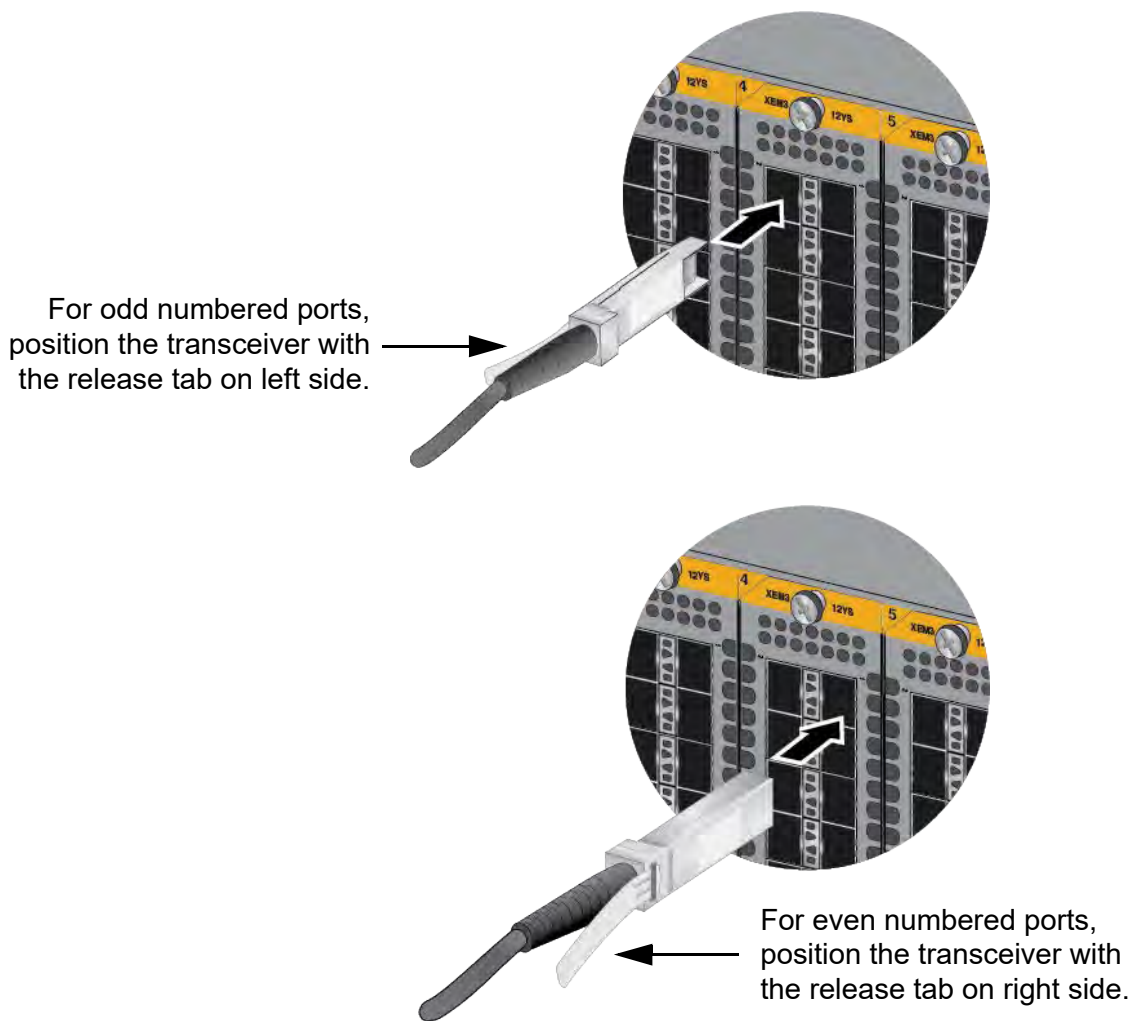

Figure 53. Installing SP10TW1 and SP10TW3 Direct Attach Cables in the XEM3-12YS Module
- XEM3-12YS Module - To install a SP10TW direct attach cable in an odd numbered slot, position the transceiver with the release tab on the right. To install a cable in an even numbered slot, position the release tab on the left. Refer to Figure 53. Slide the connector into the slot until it clicks into place.